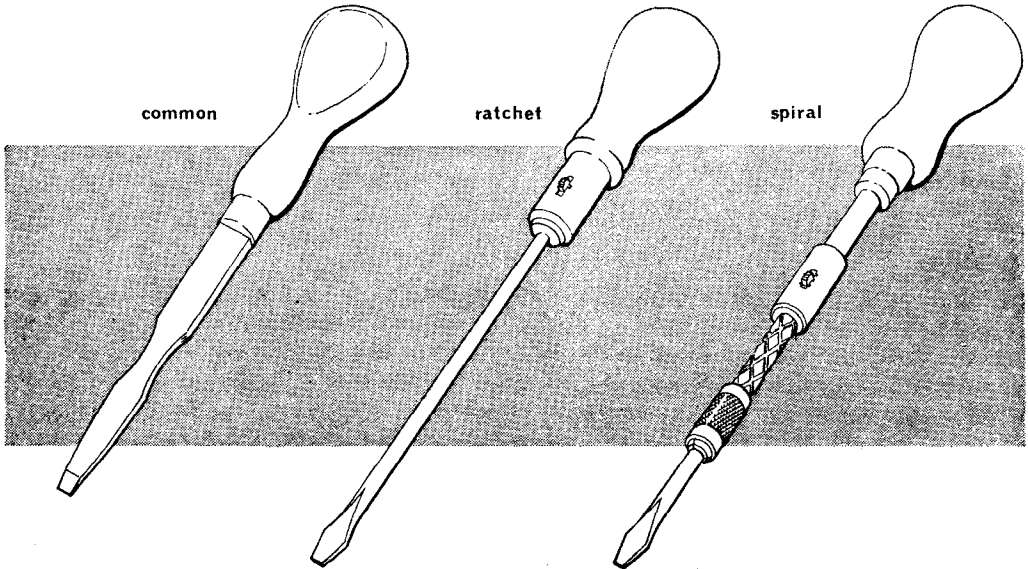

Fig. 2 Screwdrivers
2. A screwdriver consists of a hardened steel blade fitted with a suitable handle, usually made from an insulating material. Screwdrivers are classified by the length of the blade, e.g. screwdriver common 6 ins. Some screwdrivers have a ratchet mechanism in the handle to permit speedy operation (Fig. 2). Ratchet and 'pump type' ratchet screwdrivers should not be used on an aircraft.